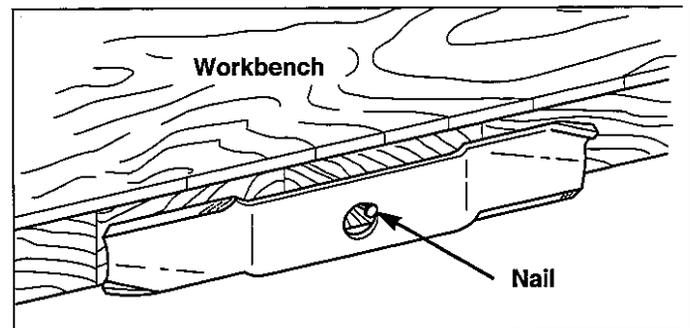

Figure 30. Balancing The Blade
5. Balance the blade as shown in Figure 30. Center the blade's hole on a nail lubricated with a drop of oil. A balanced blade will remain level.